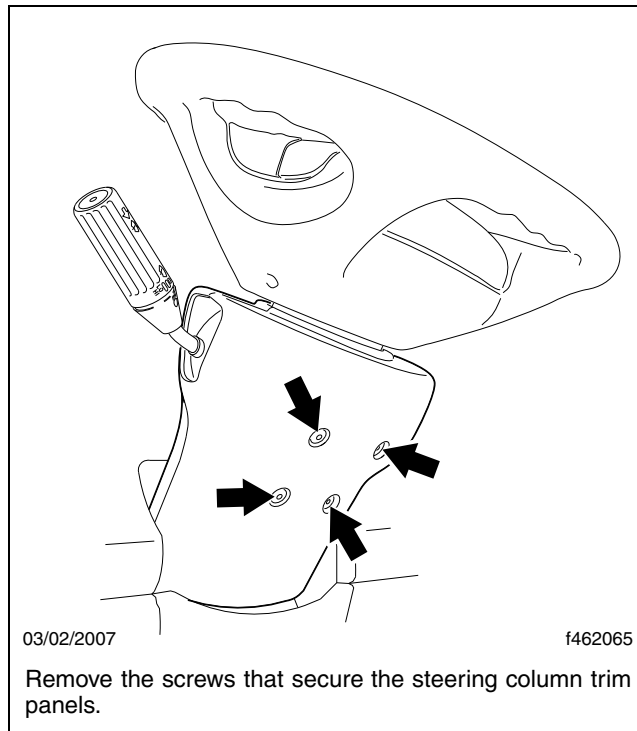

Fig. 3, Steering Column Screws
- 1.1 Remove the screws that secure the steering column trim panels. See **Fig. 3**.